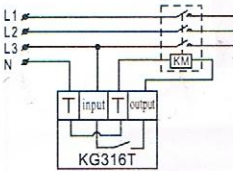

Figure 4 Three-phase working mode (conductor's coil voltage is AC220V)
a) If the control conductor's coil voltage is AC380V 50Hz, then the mode of connection is shown as in Figure4.